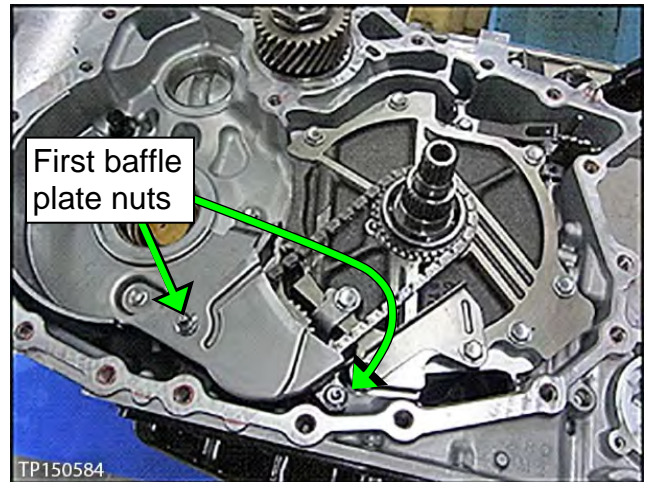

Figure 11I
10. Install baffle plate A with two nuts (Figure 11I).